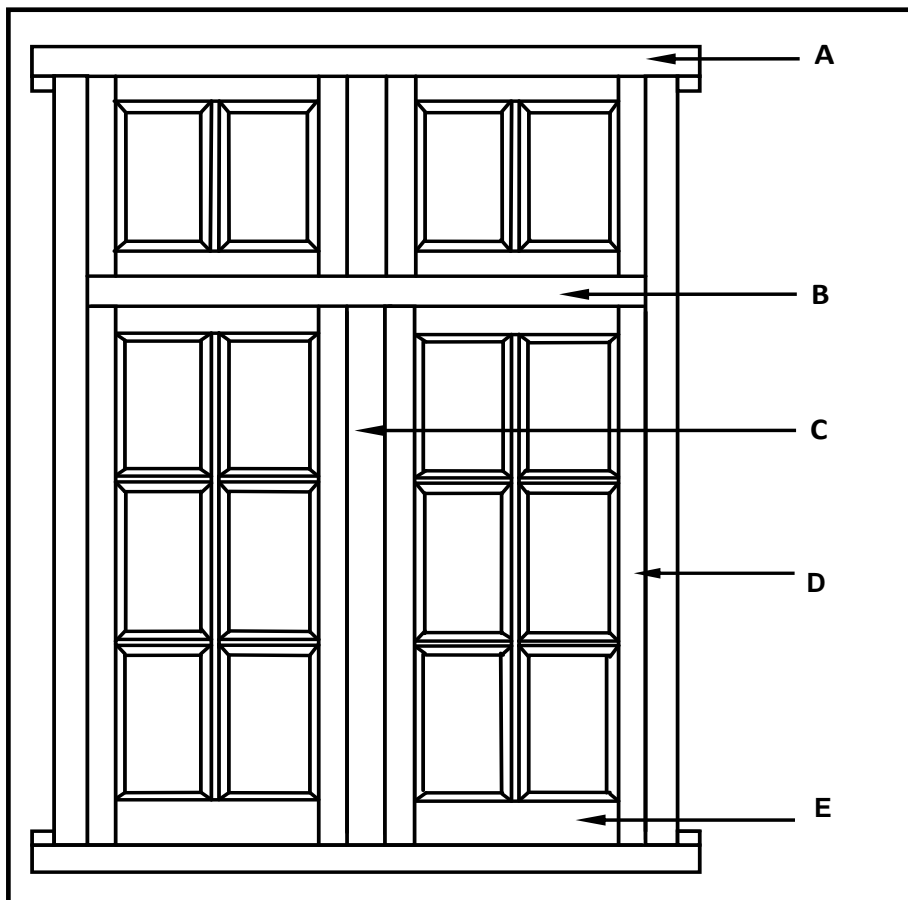

FIGURE 3.2
- 3.2 FIGURE 3.2 below shows an external elevation of a double casement with fanlights. Name parts A–E.